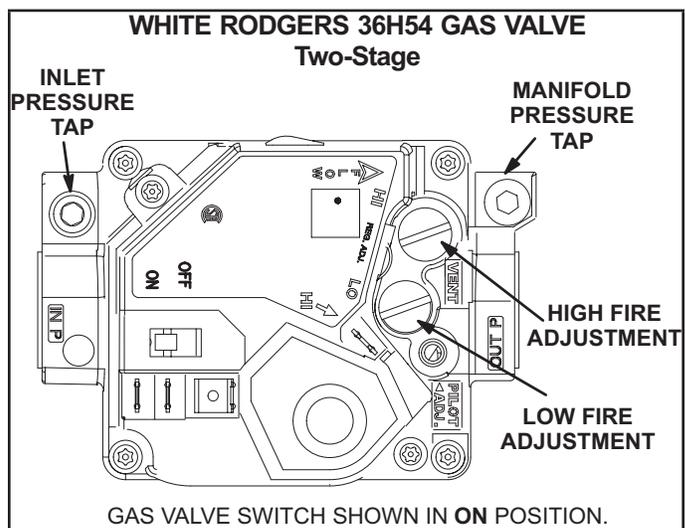
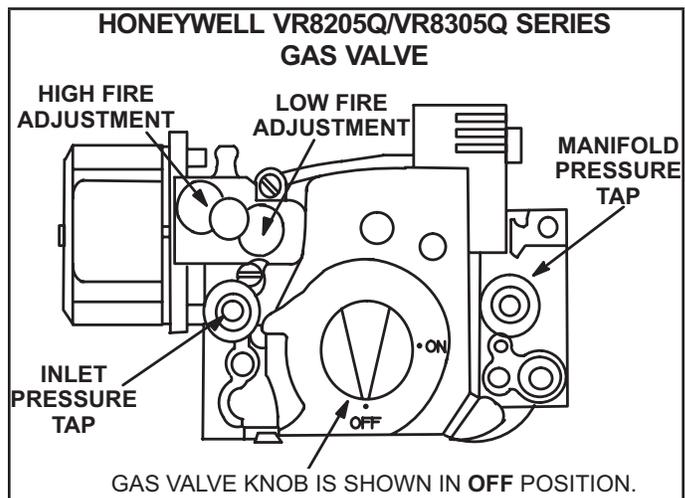

FIGURE 34
FIGURE 35
Gas Valve Operation for Honeywell VR8205Q/VR8305Q and White Rodgers 36H54 (FIGURE 34 and FIGURE 35)
- 5 - Turn gas valve switch to **OFF**. See FIGURE 34. On Honeywell VR8305Q gas valves, turn the knob on the gas valve clockwise to **OFF**. Do not force. See FIGURE 35.
- 6 - Wait five (5) minutes to clear out any gas. If you then smell gas, **STOP!** Immediately call your gas supplier from a neighbor's phone. Follow the gas supplier's instructions. If you do not smell gas, go to the next step.
- 7 - Turn gas valve switch to **ON**. See FIGURE 34. On Honeywell VR8305Q gas valves, turn the knob on the gas valve counterclockwise to **ON**. Do not force. See FIGURE 35.